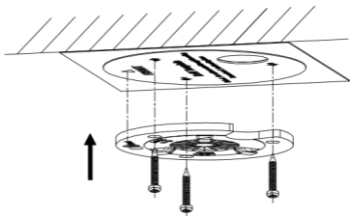

Figure 2-7 For PTZ Camera
8. Attach the base plate to the ceiling and secure it with the supplied three self-tapping screws by aligning with three screw holes in the ceiling, and the front arrows on the drill template and base plate should be aligned together as well, as shown in Figure 2-7.